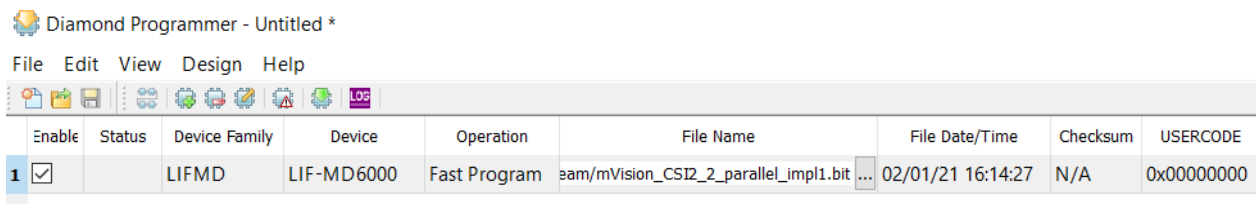

Figure 5.2. Set up Configuration Settings for CrossLink Board
5. A new window pops up (Figure 5.2). Make sure the configuration settings for the CrossLink Board are the same as those shown in Figure 5.2.